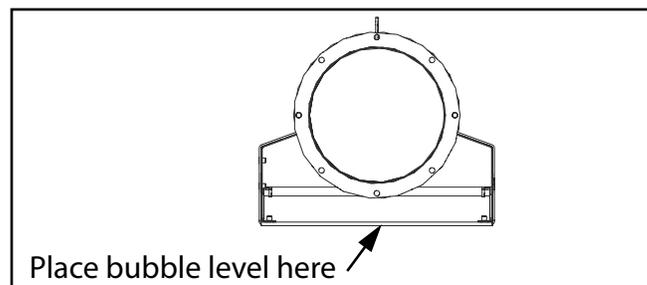

**FIG. 3-1. Stand Placement and Tube Joining**
1. Position the tube on the stands as shown in Fig 3-1.
2. Remove the Wind Guards shown in Fig 3-1. The fasteners will be reused. The discharge end and centre Wind Guard will be remounted after the belt is installed. The Intake end Wind Guard will be remounted after the Axle Frame is attached to the tube.